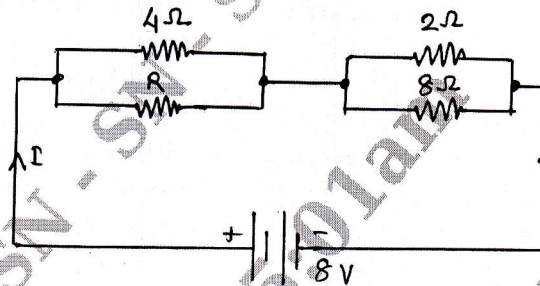

Fig.2(b)
- b. The total power consumed by the network shown in Fig.2(b) is 16W. Find the value of 'R' and total current. (06 Marks)
- c. In the circuit shown in Fig.2(c), find the voltage across A and B if i) switch 'S' is opened ii) Switch 'S' is closed.